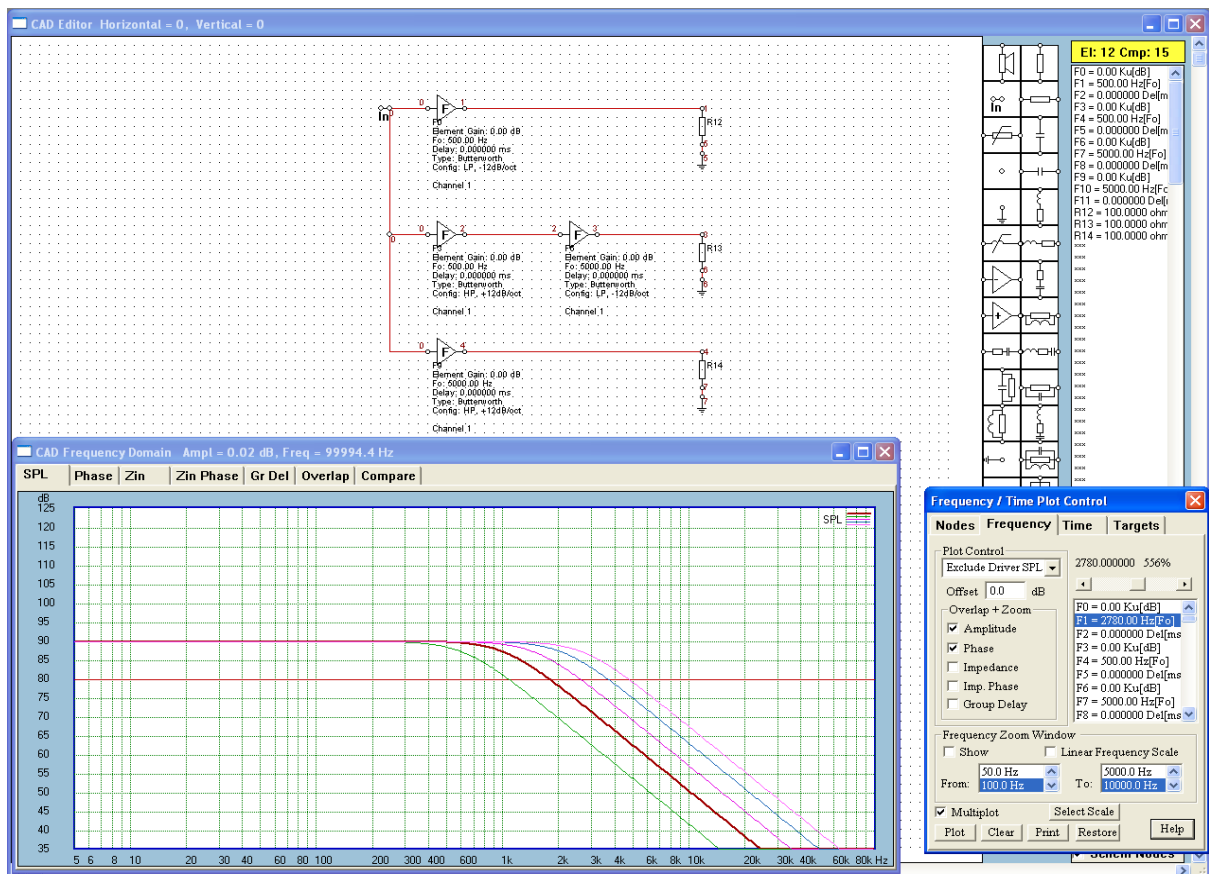

Fig 9.56. Adjusting cut-off frequency with a slider.
2. You can now **adjust cut-off frequencies, gains and Q-factors with the slider**, after highlighting this parameter in the component list box – see Fig 9.56